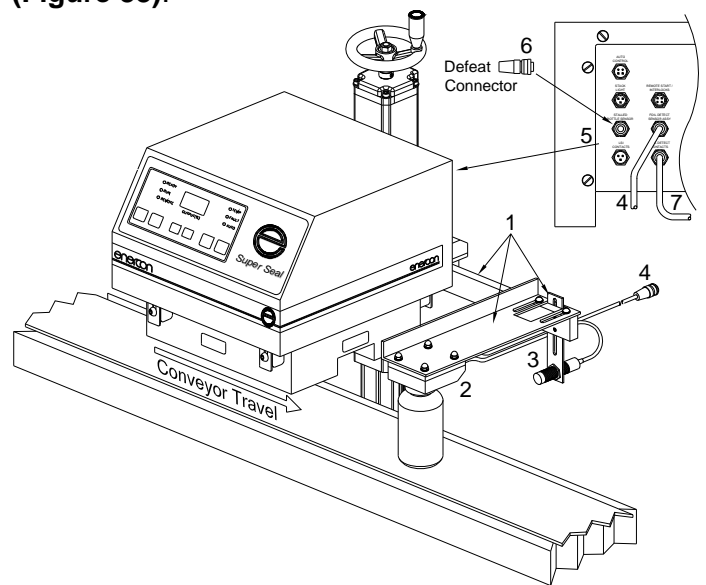

Figure 33
Mounting brackets and hardware (1) are furnished for mounting the Proximity Sensor (2) and Beam Sensor (3) to the power supply mounting bracket (**Figure 33**).